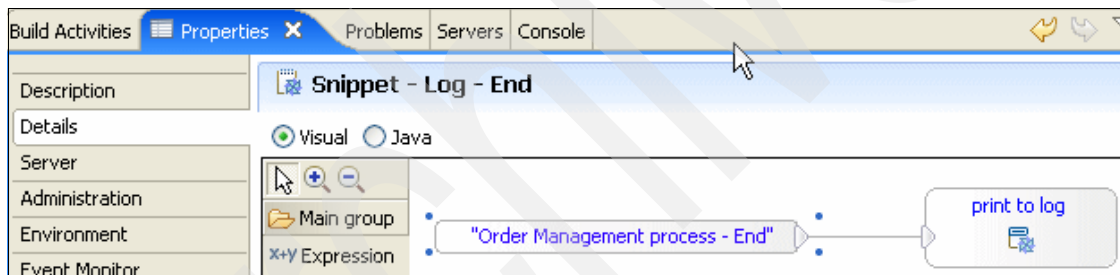

Figure 3-18 Log - End snippet
5. Repeat steps 2 through 4 to set the Log - End snippet as shown in Figure 3-18.